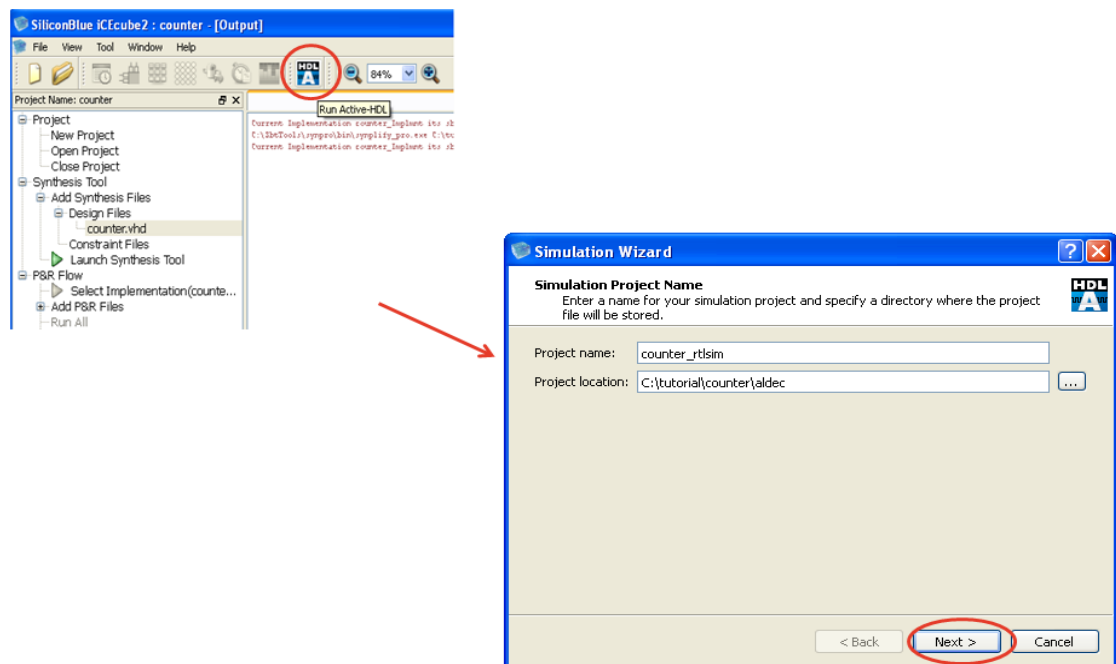

Figure 10-2: Launch Simulation Wizard and Specify Simulation Project name.
1. After creating iCECube2 project and added the RTL design files, launch simulation wizard by selecting the “AHDL” icon menu as shown in Figure 10-2. In the Simulation Wizard specify the simulation project name and simulation project location. The default project location is “Current iCECube2 project directory\aldec”. Click on “Next” icon.